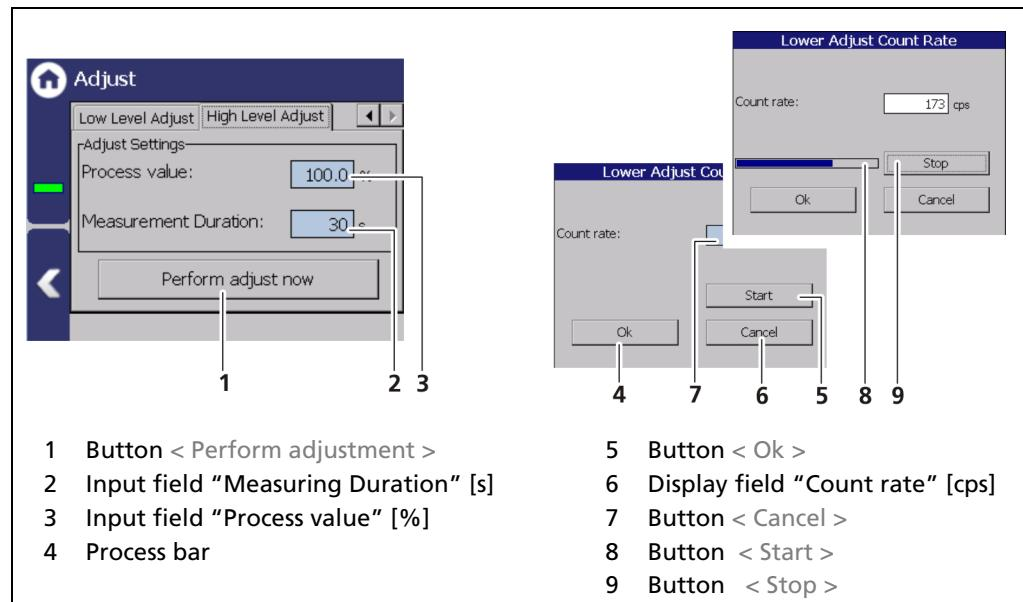

Fig. 88 Lower adjustment
- Click on the field Process value (Fig. 88, item 3) to open the input field.
- Click on the "Read-In-Time" field (Fig. 88, item 2) and specify the duration of measurement in seconds. The higher you set the measurement time, the
4. Click on the button < Perform adjust now > (Fig. 88, item 1).
5. Click on the button < Start > (Fig. 88, item 5).